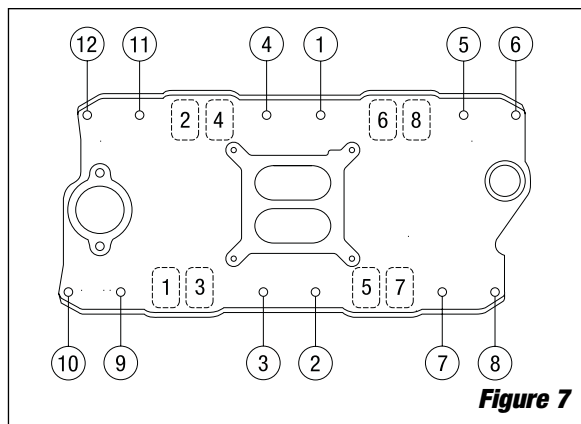
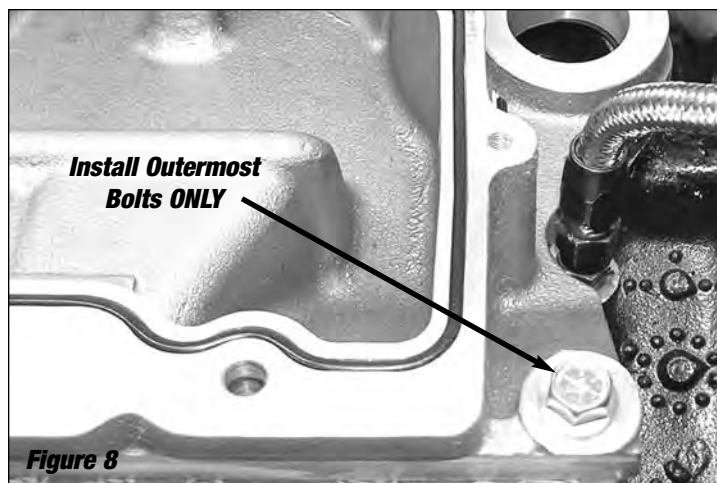

Figure 7
Figure 8
Torque bolts to 25 ft./lbs. Follow the sequence shown in **Figure 7**. For E-Tec/Vortec applications, install the four (4) outermost bolts **ONLY**, and **DO NOT TIGHTEN**. Snug these bolts by hand with a small box-end wrench. This will keep the manifold steady while installing the supercharger and manifold top plate assembly (**See Figure 8**).